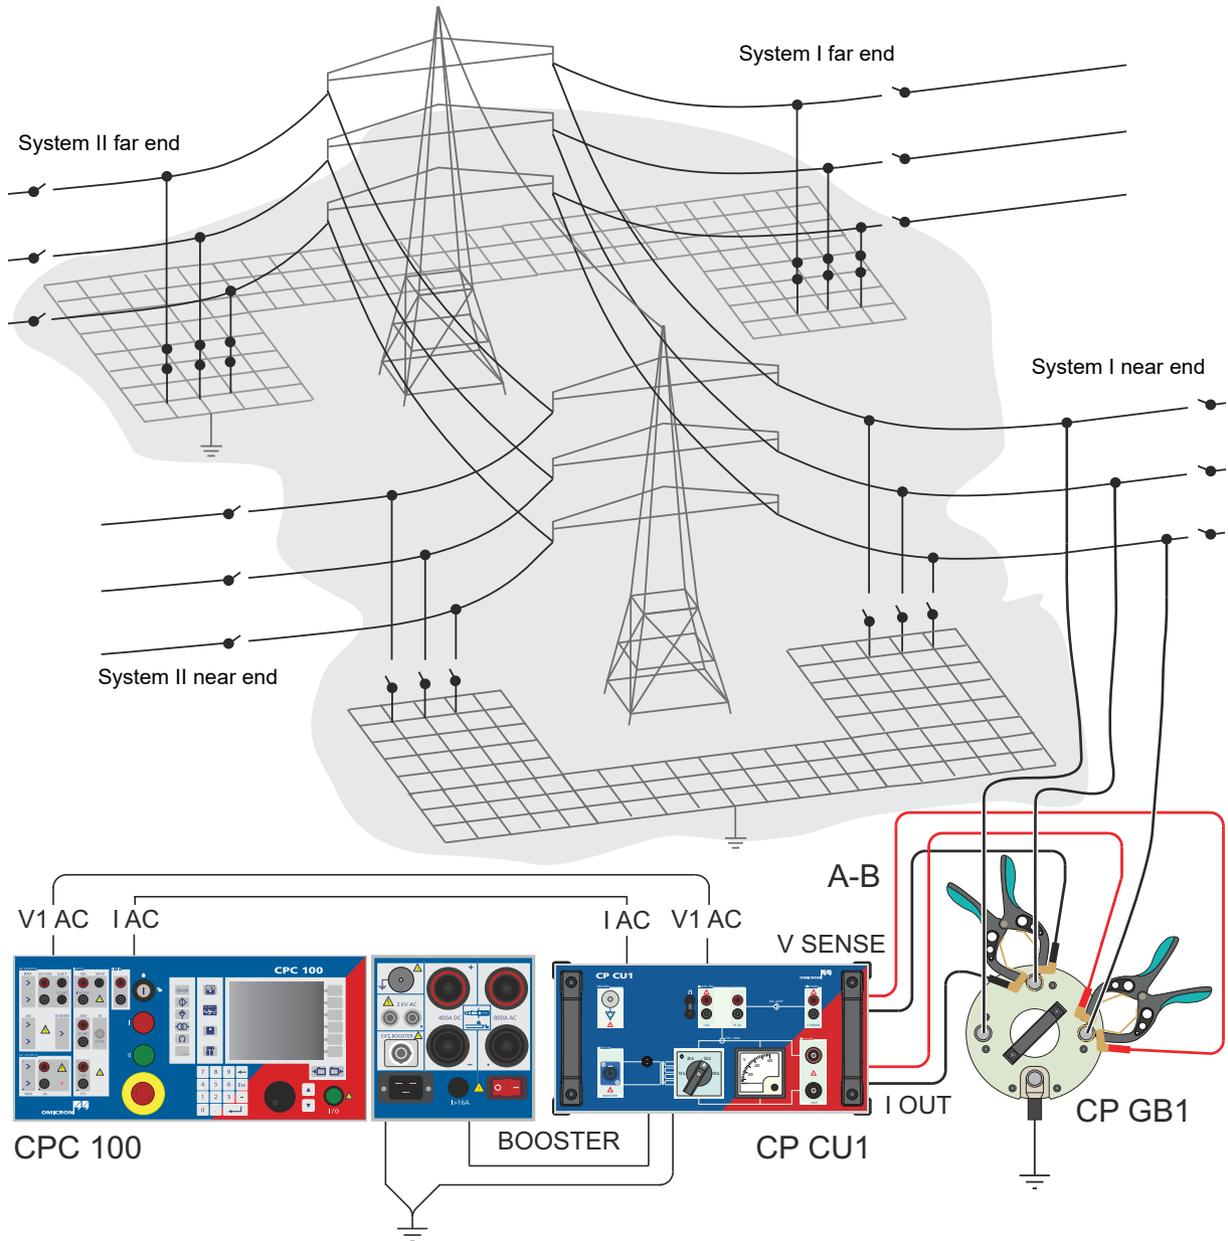
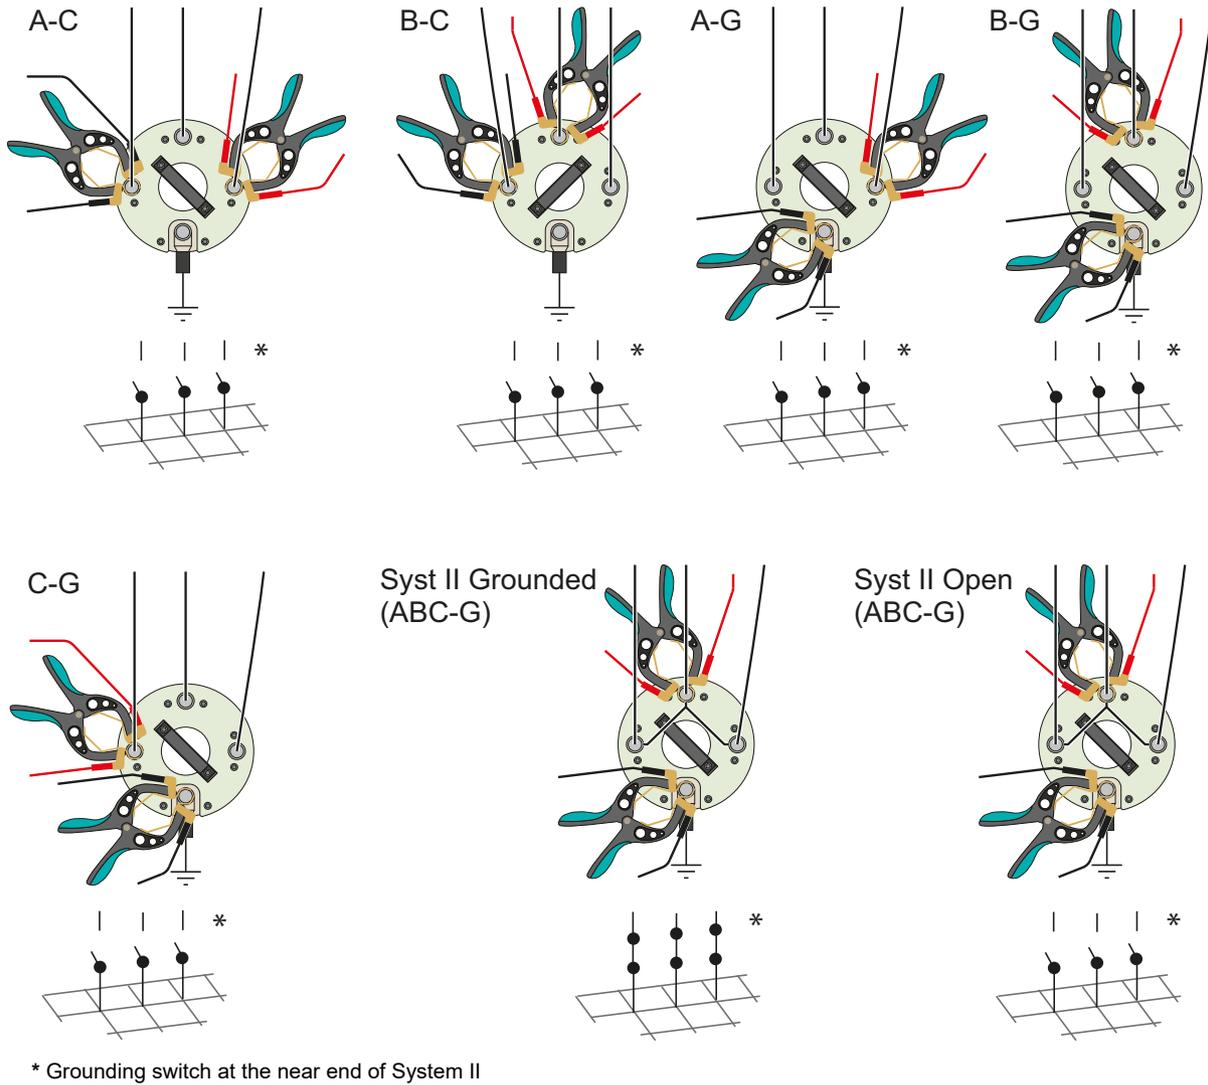

Figure 4-10: Mutual coupling measurement loop A-B
Figure 4-11: Clamp connections and state of near end grounding switch for measurement loops 2 to 8
As an example, Figure 4-10 below shows the connection of the CP CU1 to the CP GB1 for measurement loop A-B.
2. Change the connection accordingly for all other test loops as shown in Figure 4-11 below. Also note the state of the parallel system's grounding switches at the near end of the line.
3. Press the **I/O Button** on the *CPC 100*'s front panel to start a measurement after you have connected the clamps to the *CP GB1* according to the respective **Schema** test card as well as Figure 4-10: "Mutual coupling measurement loop A-B" on page 42 and Figure 4-11: "Clamp connections and state of near end grounding switch for measurement loops 2 to 8" on page 43.
1. Press the **I/O Button** on the *CPC 100*'s front panel to start a measurement after you have connected the clamps to the *CP GB1* according to the respective **Schema** test card as well as Figure 4-10: "Mutual coupling measurement loop A-B" on page 42 and Figure 4-11: "Clamp connections and state of near end grounding switch for measurement loops 2 to 8" on page 43.